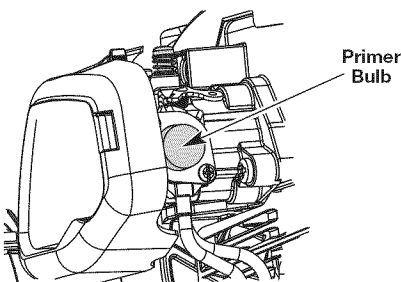

Fig. 8
- Fully press and release the primer bulb 10 times, slowly. Some amount of fuel should be visible in the primer bulb and fuel lines (Fig. 8). If fuel can not be seen in the bulb, press and release the bulb as many times as it takes until fuel can be seen in it.